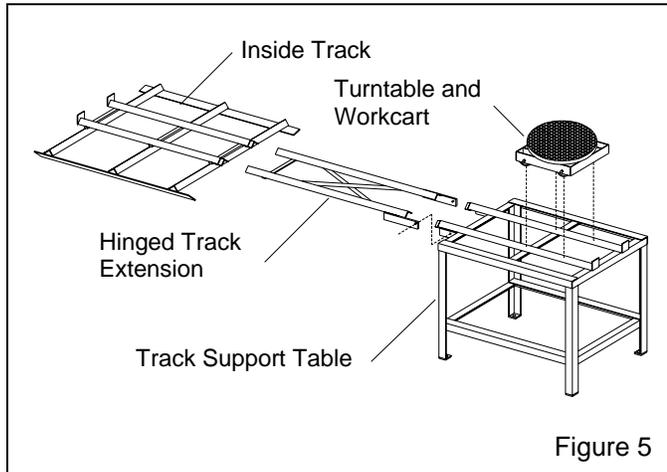

Figure 5
3.4.1 The components of the turntable and track assembly are shown in Figure 5. The assembly consists of: